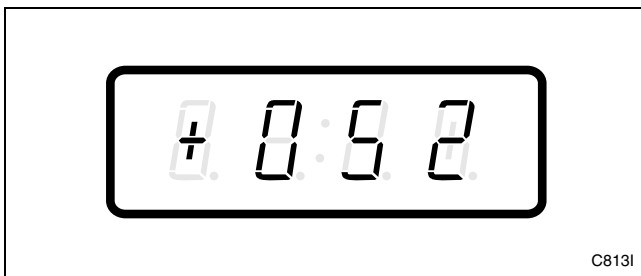

Figure 187
3. Press the DELICATES (+) or the COLD (-) keypad to scroll through the programmable options until “+052” appears in the VFD. Refer to *Figure 187*.